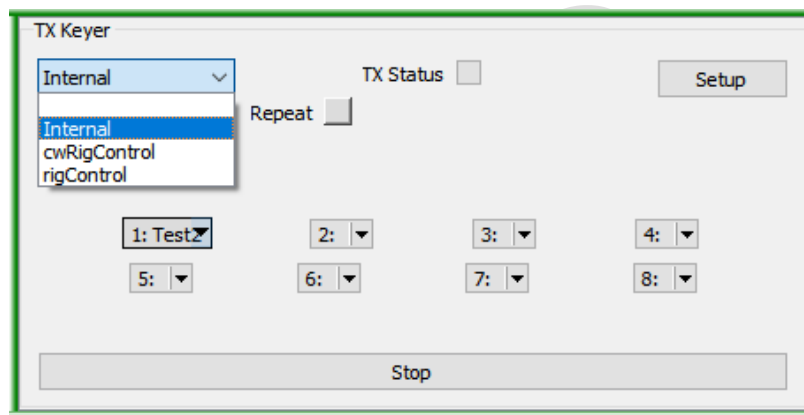

Figure 124 – TX Keyer panel in Logger
Having added the Keyer panel to the Logger screen layout (see section 3.5), the pulldown list at top left allows selection of the method to be used (Figure 124):
- “**Name**” is what is displayed on the button (Figure 124).